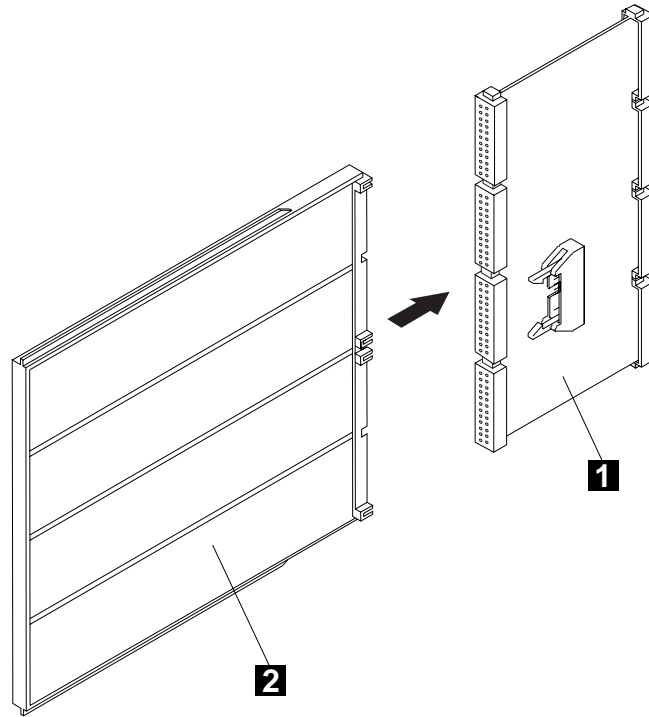

Figure 4-16. Installing a DICO Card Using a Dummy Card
- Step 7. \_\_\_\_ Then, using a dummy card **2** PN 2733278 push and put the DICO cards **1** in place (see Figure 4-16).